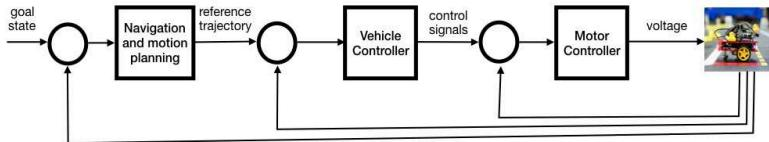

Figure 2.5. An example of nested control loops
The loops are called nested since the output of the outer loop is used as the reference input to the inner loop. An example is shown in Figure 2.5.
**Recommended:** If Figure 2.5 is **VERY** mysterious to you, then you may want to have a quick look in a basic feedback control textbook. For example [\[21\]](#) or [\[22\]](#).
The next inner loop of the nested controller in Figure 2.5 is the Vehicle Controller, which takes as input the reference trajectory generated by the Navigation and Motion Planning block and the current configuration of the robot, and uses the error between the two to generate a control signal.